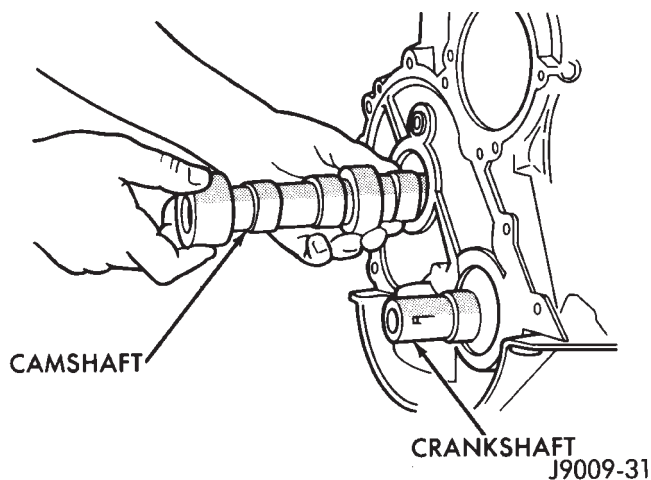
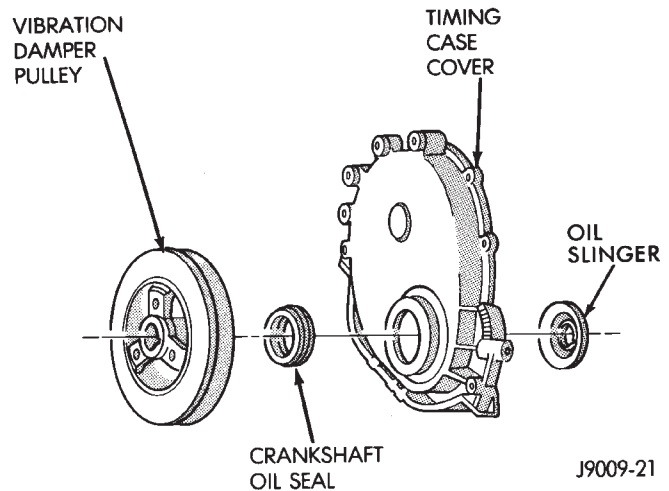

Fig. 9 Camshaft
Fig. 10 Timing Case Cover Components
- (6) Remove the distributor and ignition wires.
- (7) Remove the engine cylinder head cover.
- (8) Remove the rocker arms, bridges and pivots.
- (9) Remove the push rods.
- (10) Remove the engine cylinder head and gasket.
- (11) Remove the hydraulic valve tappets from the engine cylinder head.
- (12) Remove the vibration damper.
- (13) Remove the timing case cover.
- (14) Remove the timing chain and sprockets.
- (15) Remove the front bumper and/or grille, as required.
- (16) Remove the camshaft (Fig. 9).
- (1) Lubricate the camshaft with Mopar Engine Oil Supplement, or equivalent.
- (2) Carefully install the camshaft to prevent damage to the camshaft bearings (Fig. 9).
- (3) Install the timing chain, crankshaft sprocket and camshaft sprocket with the timing marks aligned.
- (4) Install the camshaft sprocket retaining preload bolt. Tighten the bolt to 108 N·m (80 ft. lbs.) torque.
- (5) Lubricate the tension spring, the thrust pin and the pin bore in the preload bolt with Mopar Engine Oil Supplement, or equivalent. Install the spring and thrust pin in the preload bolt head.
- (6) Install the timing case cover with a replacement oil seal (Fig. 10). Refer to Timing Case Cover Installation.
- (7) Install the vibration damper (Fig. 10).